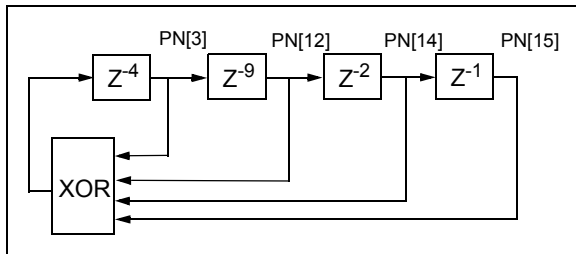

FIGURE 4-26: Block Diagram of 16-Bit LFSR for Pseudo-Random Number (PN) Sequence for Output Test Pattern.
4.12.13.1 Pseudo-random Number (PN) Sequence Output
When TEST_PATTERNS<2:0> = 111, the device outputs a pseudo-random number (PN) sequence which is defined by the polynomial of degree 16, as shown in Equation 4-9. Figure 4-26 shows the block diagram of a 16-bit Linear Feedback Shift Register (LFSR) for the PN sequence.
The valid synchronized output is available when all devices complete their own internal calibration. For this reason, the user has two options for the synchronized output: (a) monitor the calibration status of individual devices and wait until all devices complete calibrations or (b) use an external AND gate as shown in Figure 4-26. Master and all Slave devices are synchronized when the AND gate output toggles to “High”.